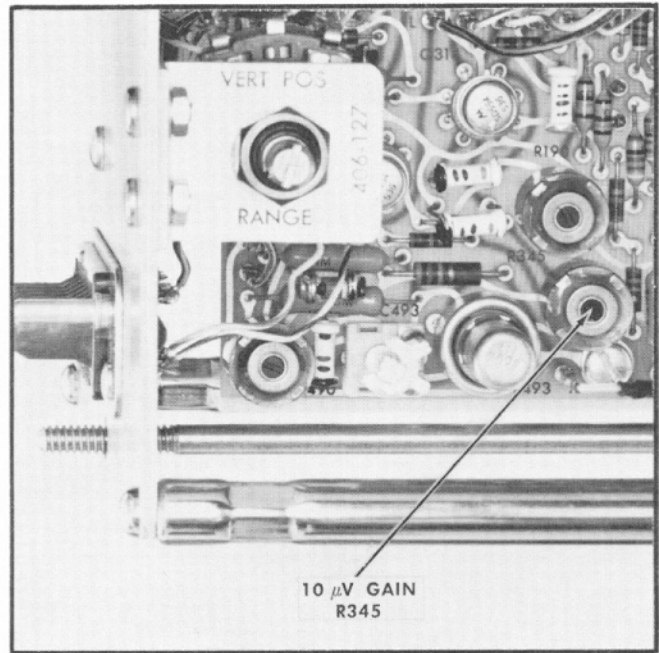

Fig. 6-24. Location of step 15 adjustment.
g. Check that the display amplitude is 5 cm. Measure the center-to-center amplitude of the display between the points shown in Fig. 6-23. If the display is not correct in amplitude, adjust the 10 μV GAIN control (R345; see Fig. 6-24).